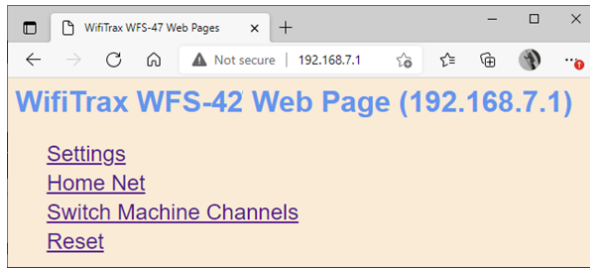

Figure 7. The Main Menu of the WFS-42
- You will see the Main Menu page as in Figure 7